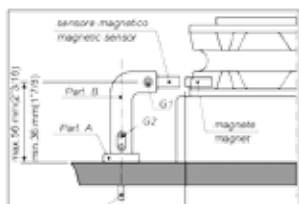

Fig. 1B
2. In the case of vertical shaft anchor windlasses (see Fig.1B), drill the hole in the lower circumference of the gypsy.